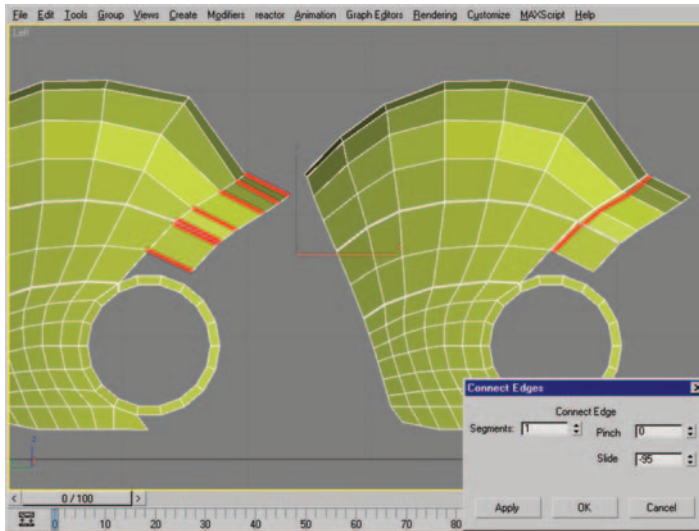

Figure 8.29 Edge selection (left) and newly created edges after using *Connect* with settings shown (right).
32. Select the edges shown in Figure 8.29 (left) and use the Connect settings dialog box with one segment and a Slide value of -95 to create a new row of edges as seen in Figure 8.29 (right).